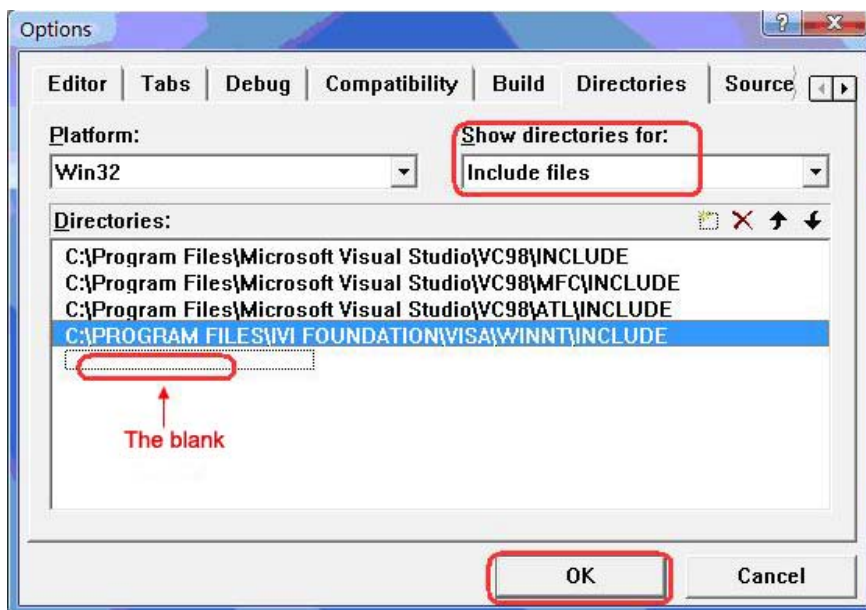

Figure 4-1-3
4. Choose Tools->Options ->Directories; select Include files in Show directories for, and then double click the blank in Directories to add the path of Include: C:\Program Files\IVI Foundation\VISA\WinNT\include, as is shown in figure 4-1-3.